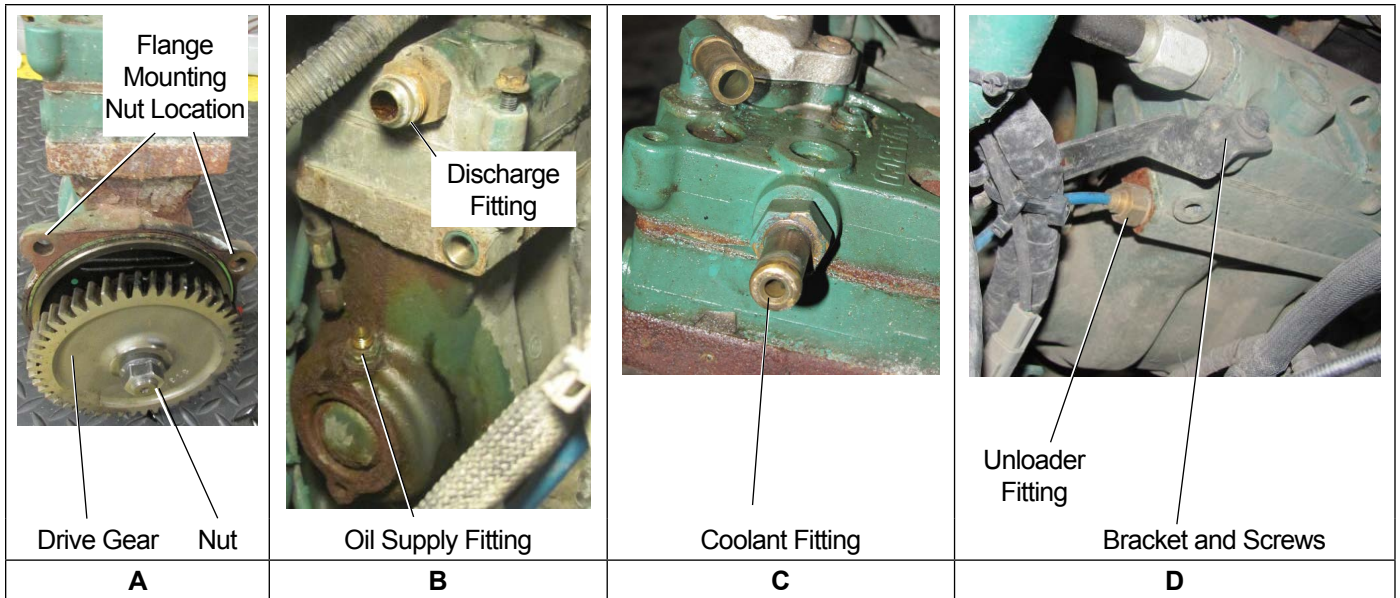

Figure 2 – Hardware That Must Be Removed From The Compressor Being Replaced
2. The following hardware must be removed from the compressor being replaced for use on the replacement Bendix SNA-01 compressor. (*See Figure 2, images A through D for the location of these hardware items.*)